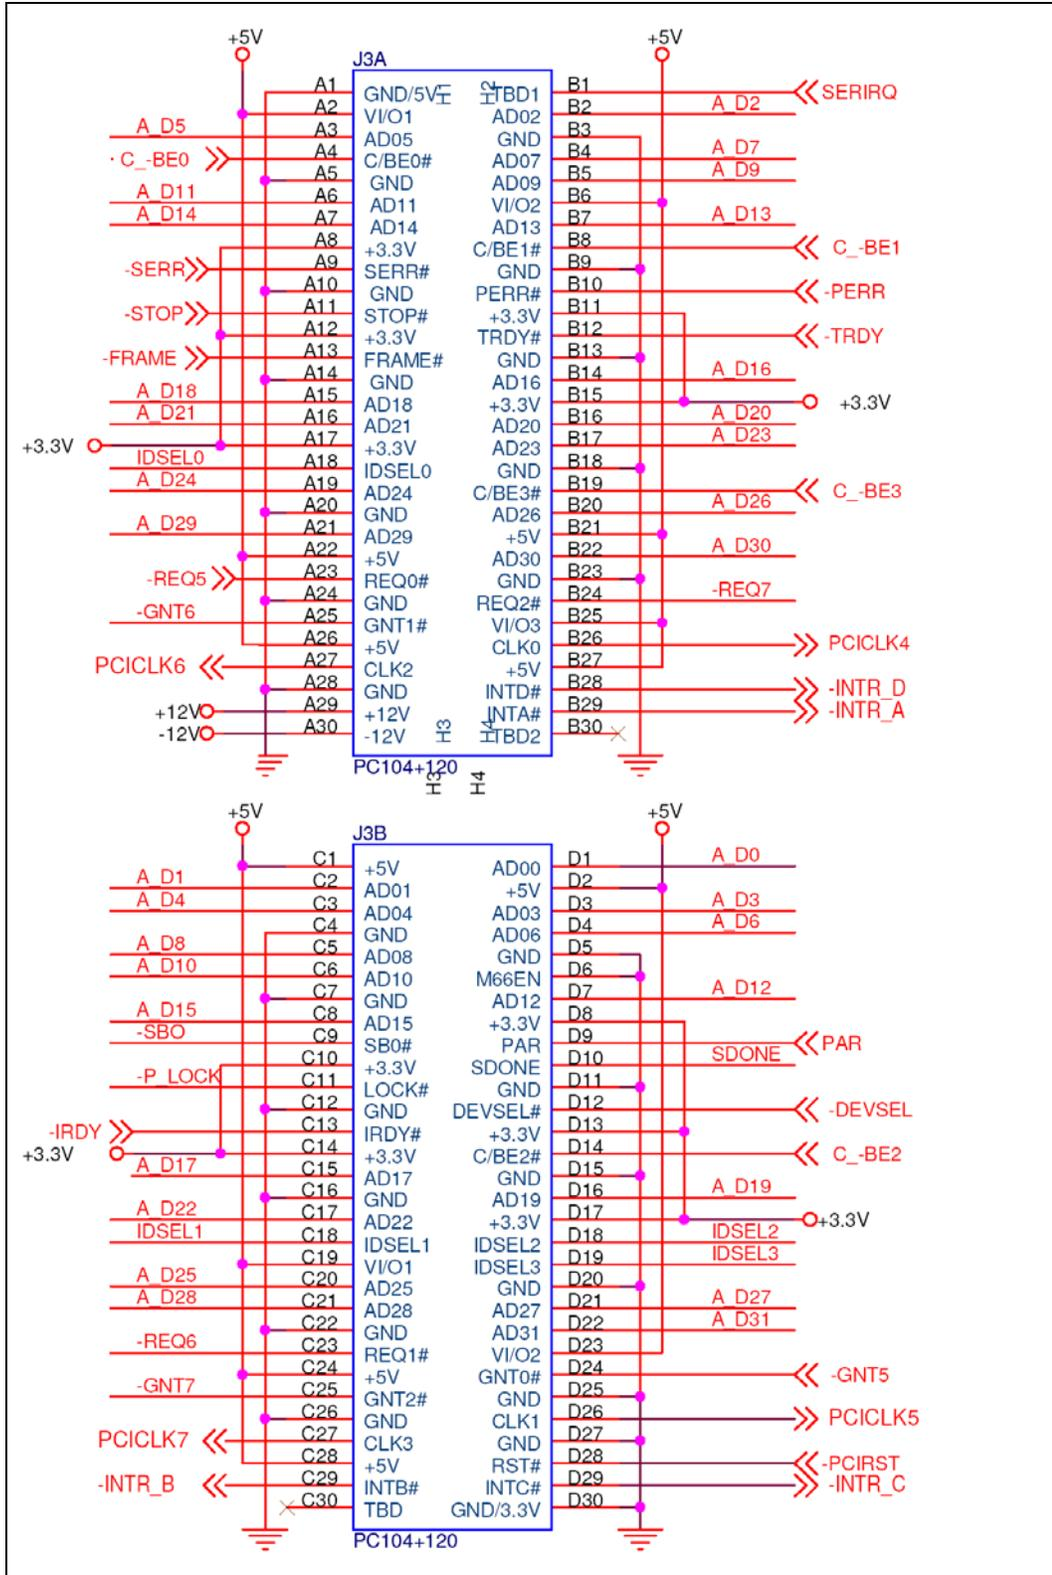

Figure 3-16: PCI-104 Slot Location
- CN Location:** See **Figure 3-16**